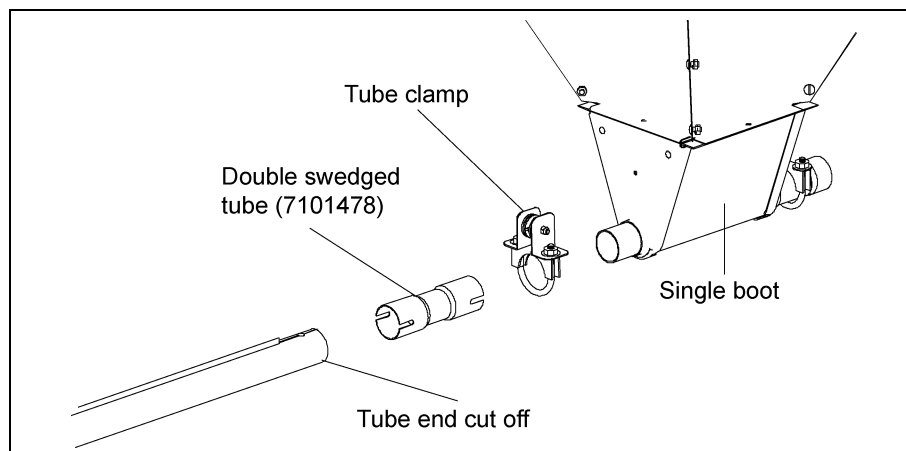

Figure 7Z
1. Starting with the poultry boot, attach a double swaged tube (7101478) to each outlet on the boot. (If single boot use one, if double boot use two (2) - one on each side of the boot.) Insert the poultry tubes into the double swaged tube. Continue to insert tubes into each other until the end of the line where the control unit will be located. (See Figure 7Z below and Figure 7AA on Page 28.)